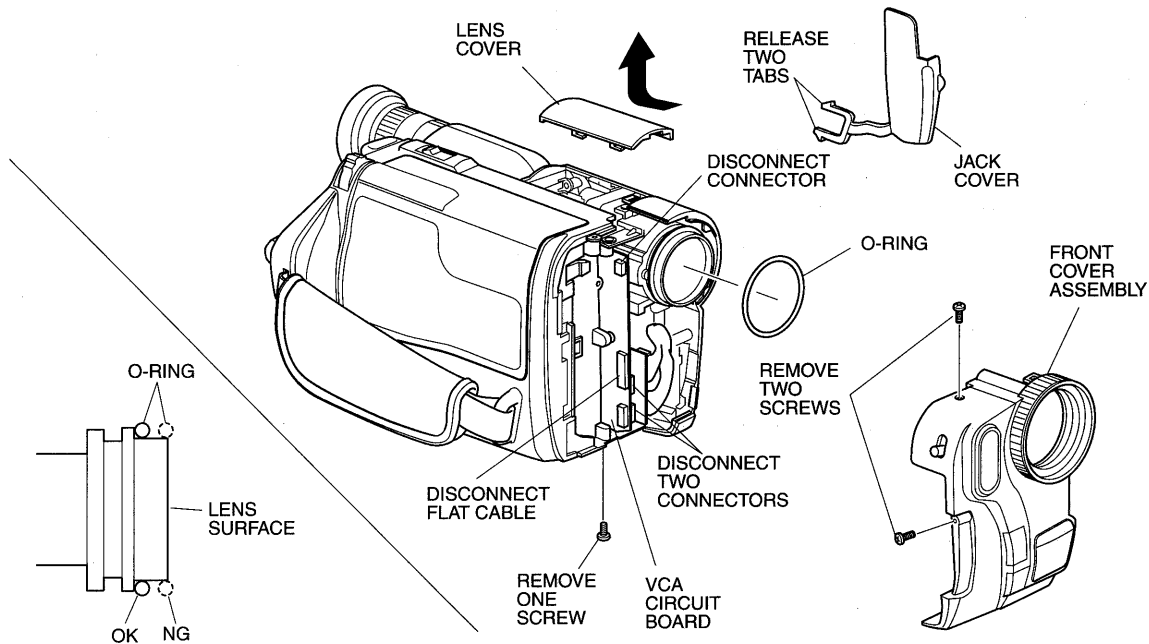

Fig. 2-1
2.1 Jack Cover, Front Cover Assembly, Lens Cover (Fig. 2-1)
The O-ring must be installed in the position shown in Fig. 2-1.